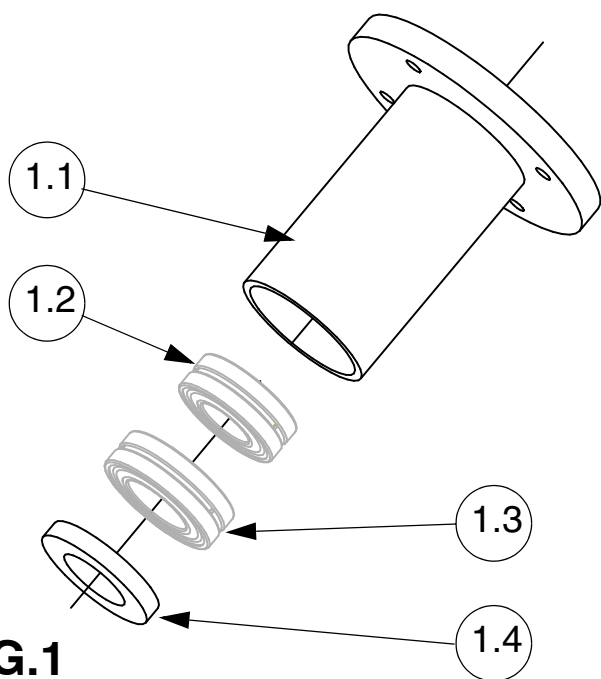
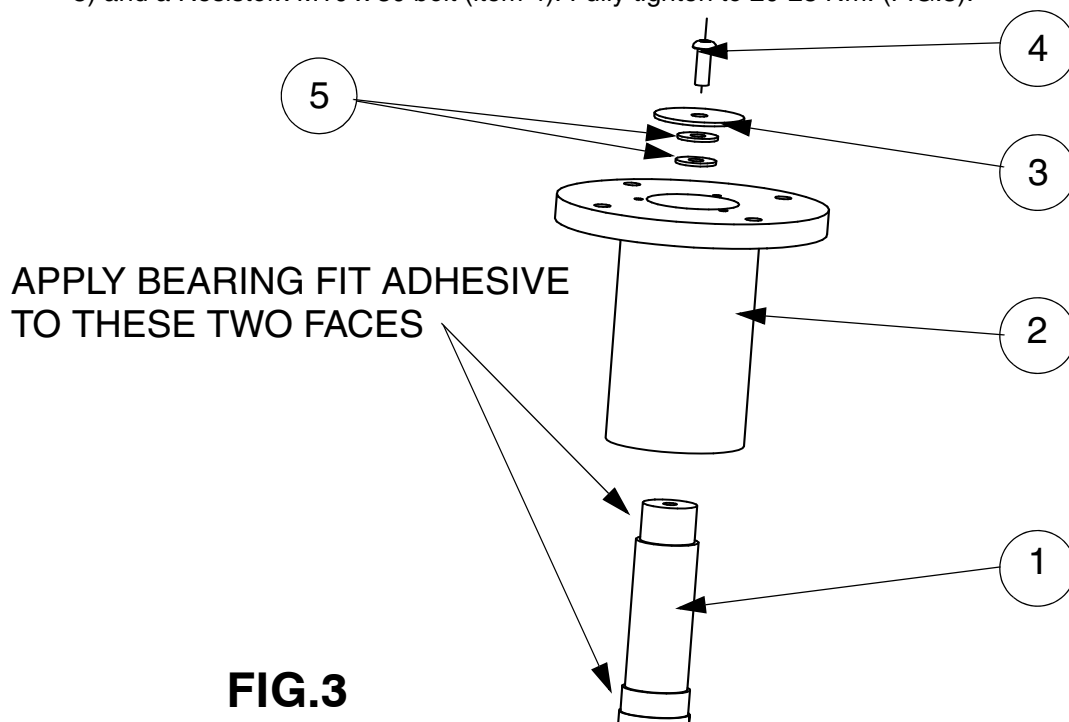

FIG.1
FIG.3
- iii) Undo the M10 x 30 Resistorx bolt (item 4) in the centre of the shaft (item 1) and remove the Holding Washer (item 3) and Heavy Duty Washers (item 5). (FIG.3).
- iv) Slide the Bearing Assembly (item 2) off the shaft (item 1).
- v) Remove the Oil Seal (item 1.4) from the Bearing Housing (item 1.1). Inspect for signs of wear and replace if necessary. (FIG.1 & 2).
- vi) Using a suitable bearing extractor, remove the Spherical Roller Bearing (item 1.3) from the Bearing Housing (item 1.1). Inspect for signs of wear and replace if necessary. (FIG.1 & 2).
- vii) Using a suitable bearing extractor, remove the Spherical Roller Bearing (item 1.2) from the Bearing Housing (item 1.1). Inspect for signs of wear and replace if necessary. (FIG.1 & 2).
- viii) Press the Spherical Roller Bearing (item 1.2) into the Bearing Housing (item 1.1) ensuring it is fully in position. (FIG.1 & 2)
- ix) Press the Spherical Roller Bearing (item 1.3) into the Bearing Housing (item 1.1), ensuring it is fully in position. (FIG.1 & 2)
- x) Slide the Oil Seal (item 1.4) into the Bearing Housing (item 1.1), (FIG.1 & 2).
NOTE: Ensure the oil seal is the correct way up. (FIG.1 & 2)
- xi) Apply a suitable Bearing Fit Adhesive (Loctite 641) to the mounting diameters on the Shaft for the two bearings and slide the Bearing Assembly (item 2) over Shaft. (FIG.3)
- xii) Secure the Bearing Assembly (item 2) in place with the Holding Washer (item 3), Heavy Duty Washers (item 5) and a Resistorx M10 x 30 bolt (item 4). Fully tighten to 20-25 Nm. (FIG.3).